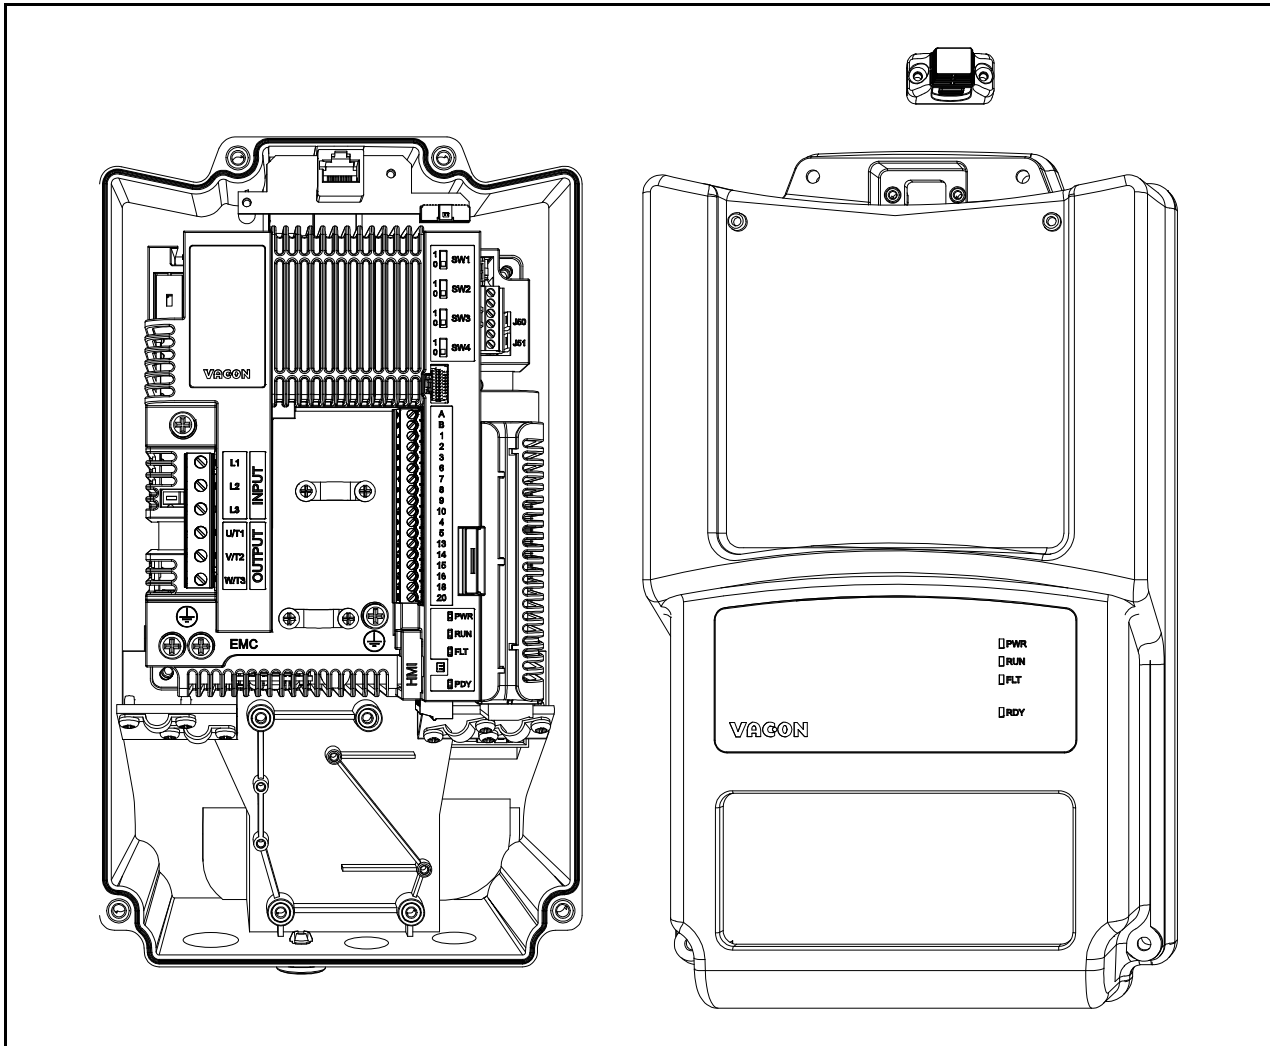

Figure 64. Cover open (MU2 3-phase example).
- Remove the HMI cap and the cover from the drive. See the Figure 64.